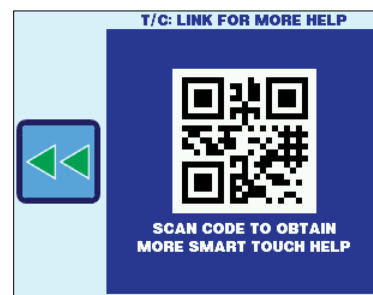

Figure 52 – More Help QR Code Screen
**Link to Get More Help** – The Link to Get More Help display shows a QR Code that connects to the Micro-Air website. There you can find this manual along with other information for further assistance. Figure 52 shows the Link to Get More Help screen.